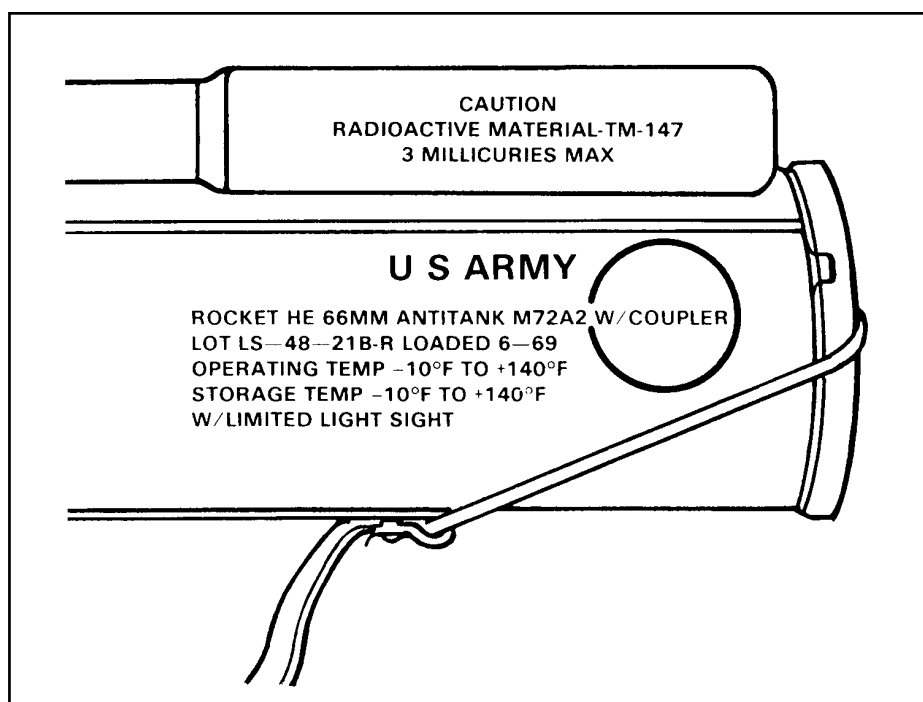

Figure 2-5. Launcher data plate.
- Check the data plate for the phrase, W/COUPLER (Figure 2-5).